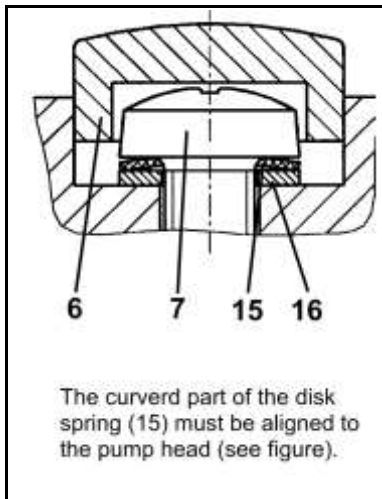

Fig. 14: Orientation disk spring
i For placement of disk spring (15) and washer (16) and for orientation of disk spring see fig. 14.
10. Install the screw caps (6).